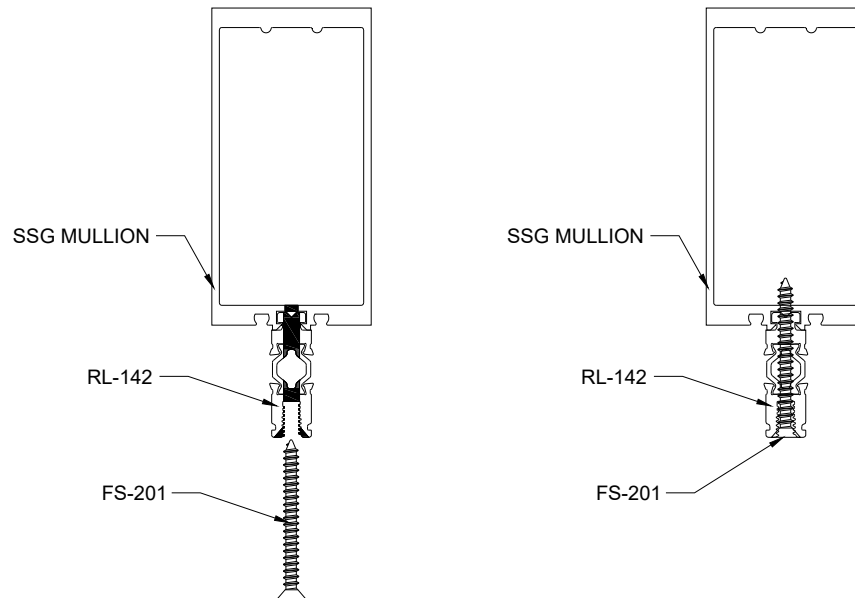

Figure 35: RL-142 to SSG Mullion Attachment
- 10.14 Attach **RL-142** to SSG Mullion with **FS-201** Fasteners; reference *Figure 35*.